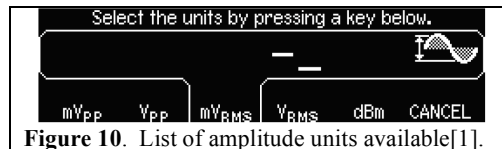

Figure 10. List of amplitude units available[1].
2. Enter the numeric value. However, if the relative input method is used via the knob and arrow buttons and the amplitude is to be defined in different units (i.e. V_{RMS} instead of V_{pp}), then press **+L** to bring up the list of possible amplitude units (shown in Figure 10). Press the dynamic button beneath the display corresponding to the desired unit to select. The output of the function generator will change immediately.